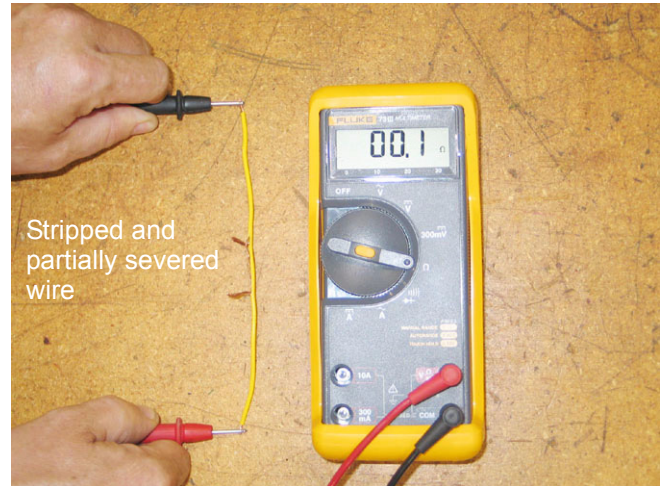

Figure 17.39
17.39. For comparison, strip away insulation at the middle of the wire, and snip strands until only a few remain. Repeat the Ohm reading. There will not be a substantial change. See Figure 17.39.